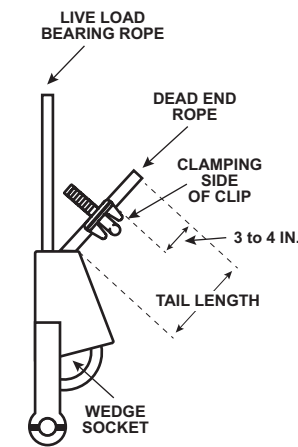

FIGURE 1
- Dead end wire rope tail length should be at least 6 rope diameters, but not less than 6 inches beyond the wedge socket. See Figure 1.
- Apply U-bolt and first saddle on dead end rope and the second saddle on live end rope. Install nuts. See Figures 1 & 2.
- Position the dual saddle clip so that 3 to 4 inches of dead end rope remain beyond the clip. See Figures 1 & 2.
**Figure 1.** When the load on round pads twists, the narrow jaw resists it. This places very high loads on the edge of the jaw, which is not designed to sustain this pivoting load.